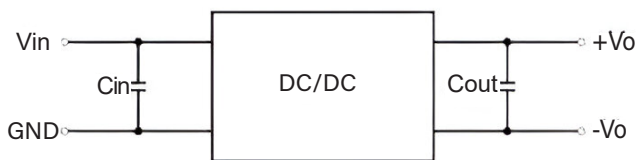

Fig. 6
- All DC-DC converters of this series are tested before delivery using the recommended circuit shown in Fig. 6. Input and/or output ripple can be further reduced by appropriately increasing the input & output capacitor values C_{in} and C_{out} and/or by selecting capacitors with a low ESR (equivalent series resistance). Also make sure that the capacitance is not exceeding the specified max. capacitive load value of the product.
C3	Refer to the Cout in Fig.6